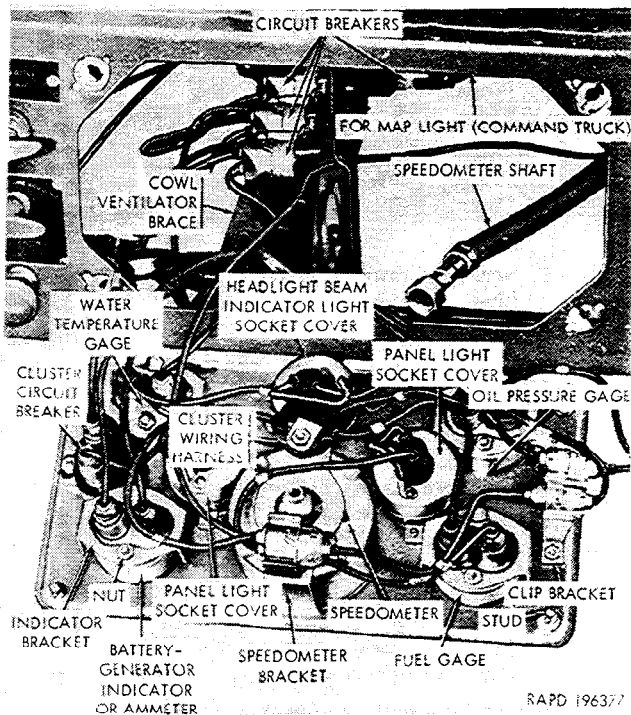

Figure 2-51. Instrument cluster and circuit breaker.
(1) Disconnect the speedometer shaft from the speedometer (fig. 2-51).